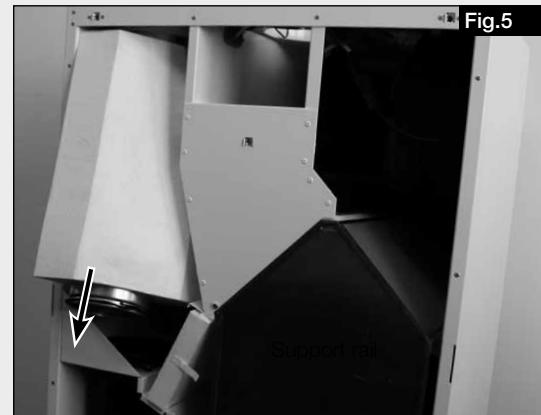

Fig.5
2. Swing out the bottom of the silencer and remove the silencer downwards from the unit (see Fig. 5).